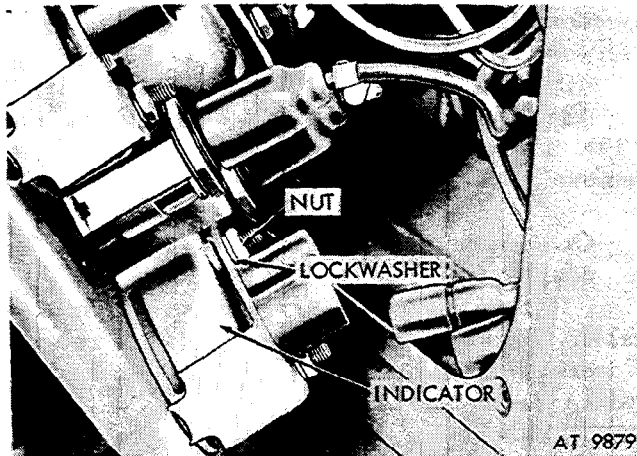

Figure 2-264. Remove temperature indicator and retaining bracket.
(1) Remove instrument cluster (para 2-103). Separate connectors at temperature indicator (fig. 2-264).
(2) Remove two nuts and lockwashers securing temperature indicator gage and remove retaining bracket and temperature gage (fig. 2-264).